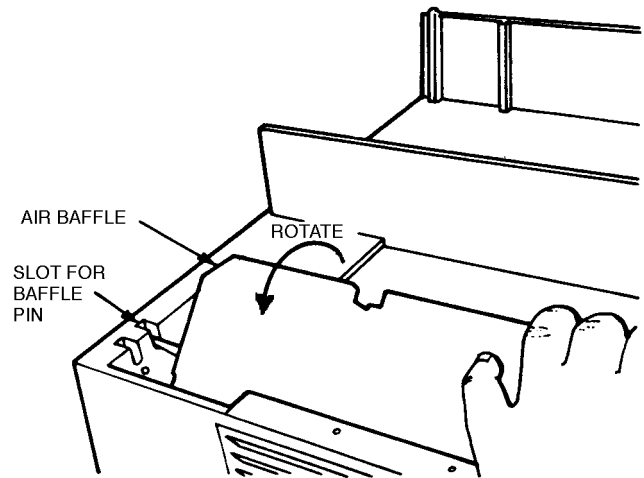

FIGURE 12 — REMOVING THE AIR BAFFLE
3. Rotate and lift the air baffle out of the unit. See Figure 12.